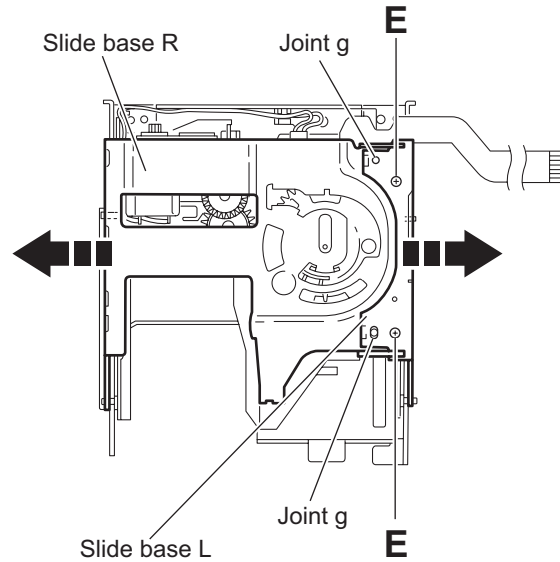

Fig.11
3.3.6 Removing the slide base L and slide base R (See Fig.11)